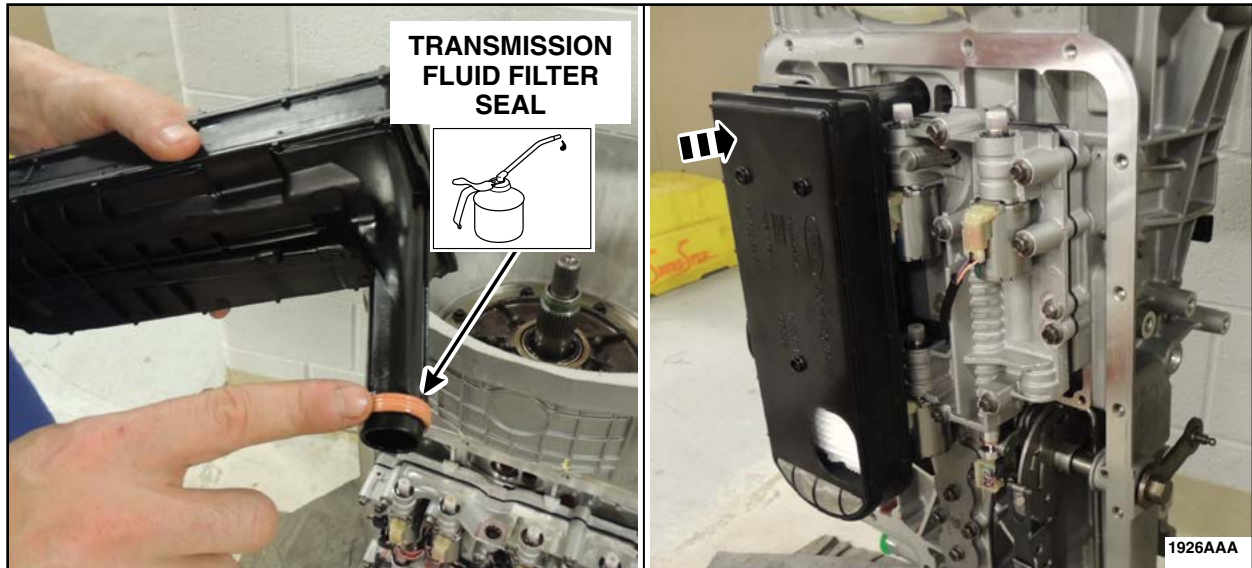

FIGURE 47
45. Lubricate the *new* transmission fluid filter seal with automatic transmission fluid and install a *new* transmission fluid filter. See Figure 47.